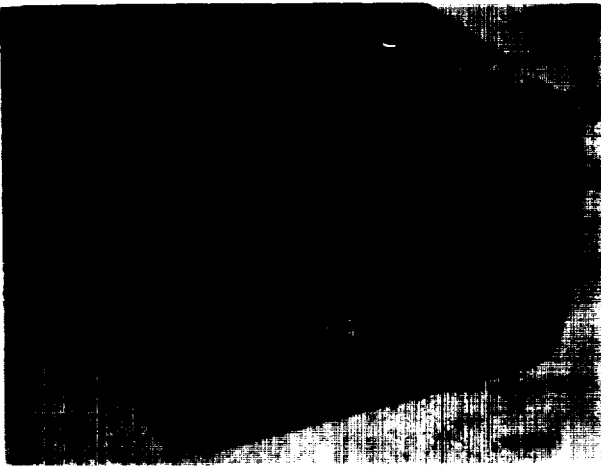
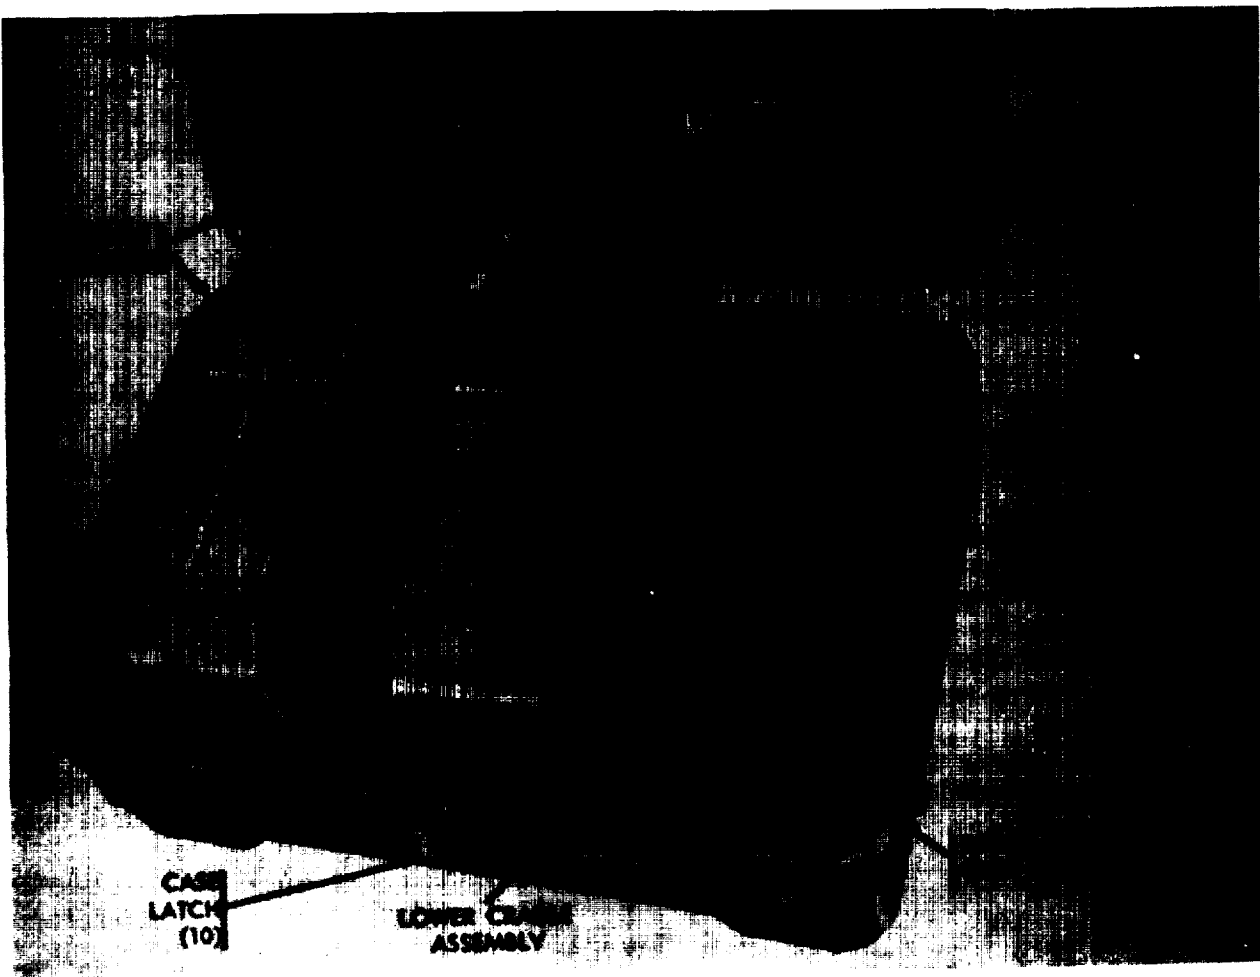

Figure 2-1. Radar chronograph accessories case showing relief.
Figure 2-2. Radar chronograph with mount in reusable container.
(2) Press relief valve buttons on the case and container (fig. 2-1) to equalize internal and external air pressures.
(3) Remove security seals from the case and container latches. Release latches and remove top sections.
(4) Loosen straps holding upper cradle assembly to lower cradle assembly (fig. 2-2), in reusable container, remove upper cradle assembly, and lay in top section.